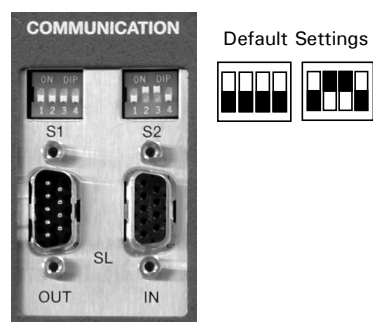

FIGURE 2-3. Default DIP Switch Settings
The FAMOS is equipped with two 9 pin RS-232 serial interfaces. In the standard setup only the male type connector (S2) is used for digital transfer between the autosampler and the PC (item 1, FIGURE 2-2). Some communication parameters can be changed via two DIP switches above the RS-232 connectors. These switches should be set to the default settings presented in FIGURE 2-3 and should not be changed.